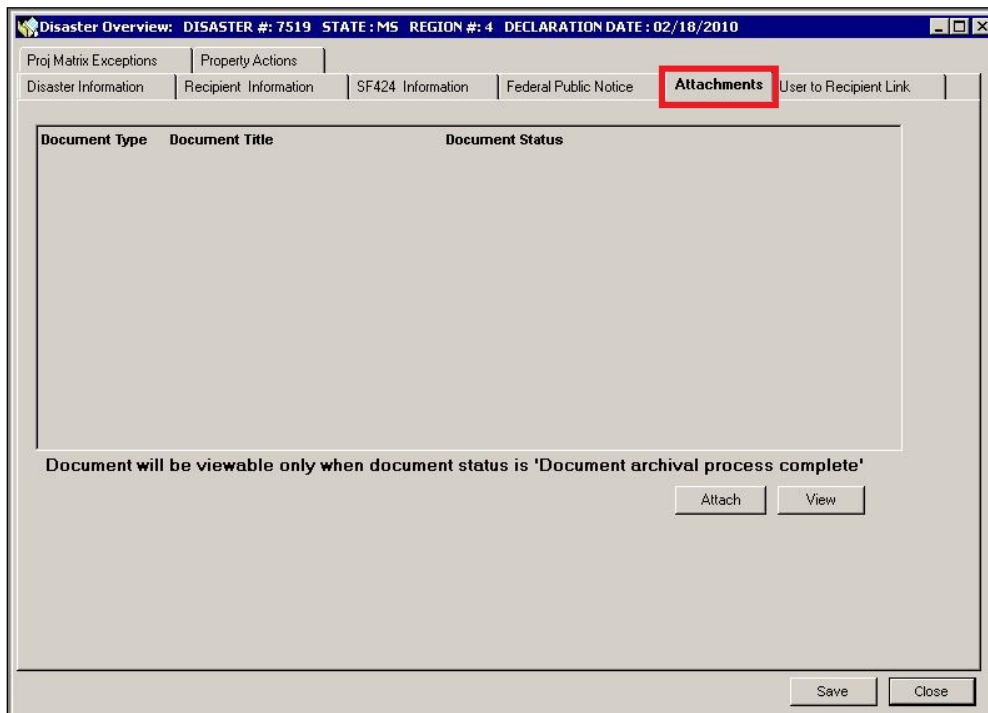

Figure 3-32: Mitigation > Disaster > Overview > Attachments Tab
1. Click the **Attachments** tab (Figure 3-32).